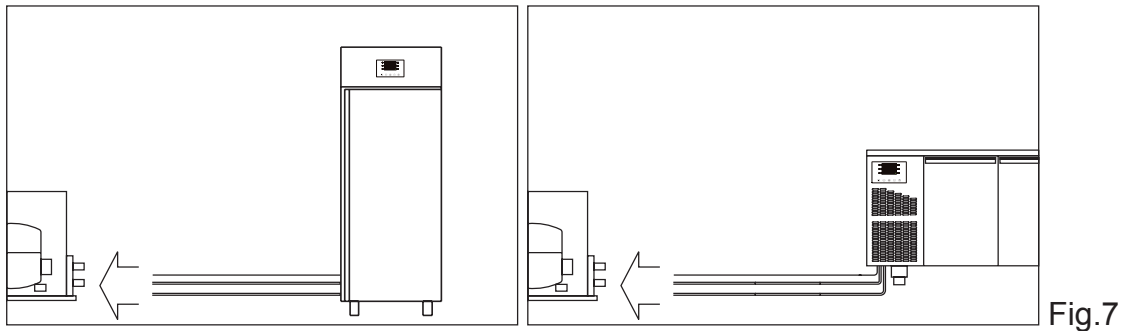

Fig.7
13.2 Retarder-proofer/dough retarder refrigerated cabinet and refrigerated table REM (Fig. 7)